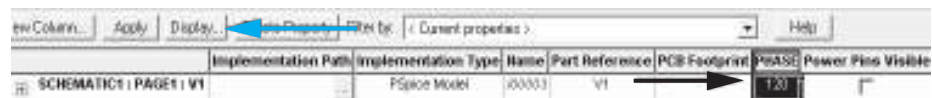

FIGURE 6.59 Set the phase angle.
2. To set the phase angle of the voltage source, go to “edit properties” of voltage source by right-clicking on it, or double-click on the voltage source. A window similar to Figure 6.59 will appear.
Add the sinusoidal voltage source, VSIN, into the PSpice schematic, with VOFF = 0, VAMPL set to 110, and FREQ set to 63.662. The phase angle can be set by going to the “edit properties” of VSIN (see Figure 6.59).
Add the sinusoidal voltage source, VSIN, into the PSpice schematic, with VOFF = 0, VAMPL set to 110 and FREQ set to 63.662. The phase angle can be set by going to the “edit properties” of VSIN (see Figure 6.59).